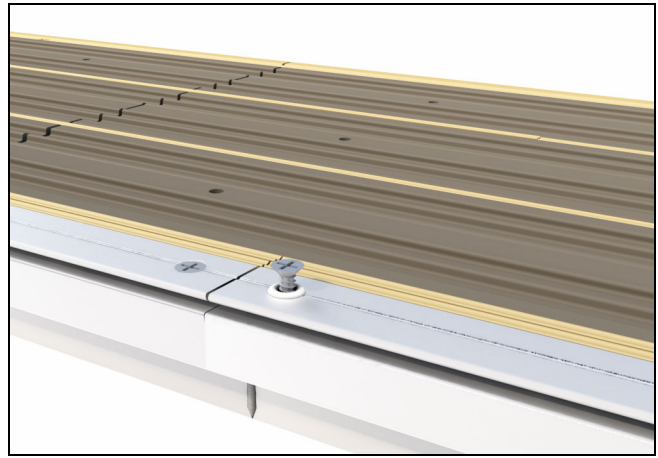

Figure 11
8. Remove other (non-injected) frame cladding splice key screw and inject with sealant until squeeze out occurs in a different location. Install #7 x 5/8" flat head screw. See figure 11.